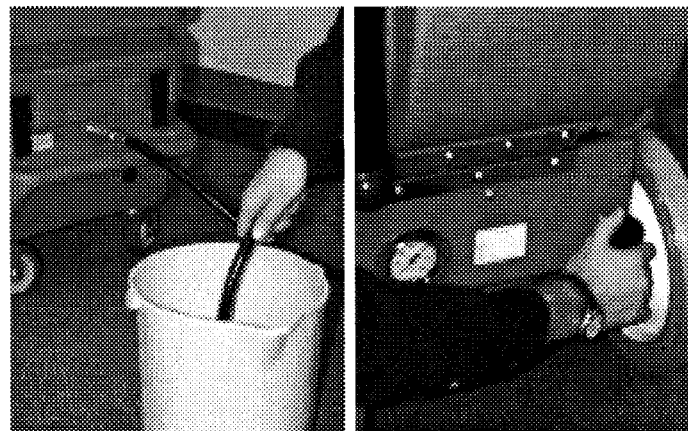

Fig. 4
- c. Turn "PUMP" switch on and let pump run for a few minutes then open rear pressure adjust knob completely (Figure 4).